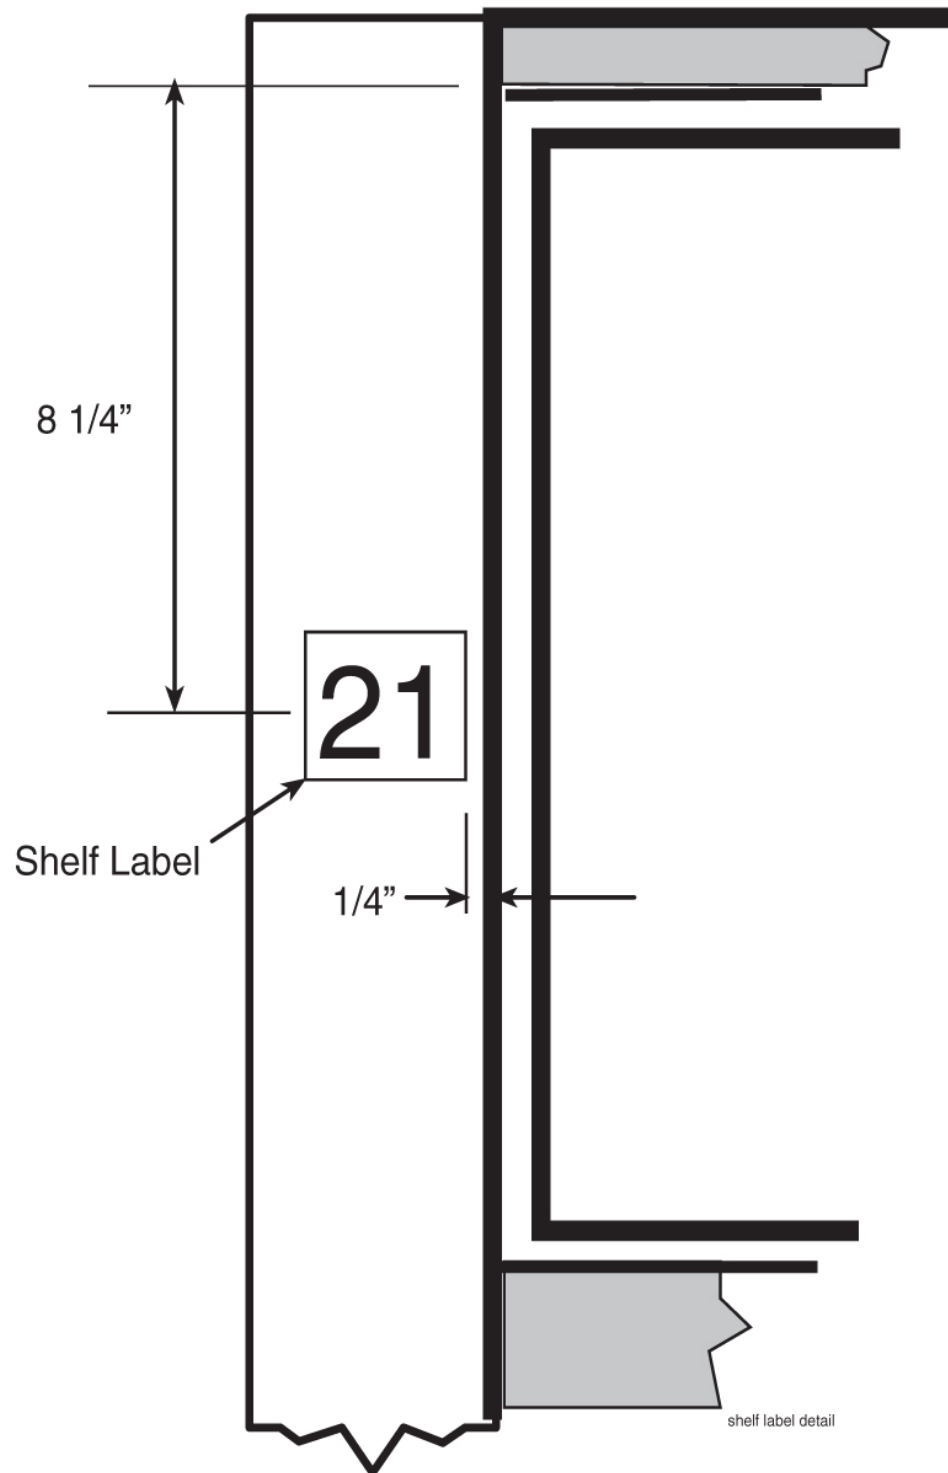

Figure 34: Shelf Label Location - Detail
Apply shelf labels to the frames of the system as shown in *Frame Labeling*. Refer to *Figure 34: Shelf Label Location - Detail* for exact placement. Refer to *Table 7: Shelf Labels and Part Numbers* for the proper label for each shelf.
2. Firmly press the label into place as shown in Frame Labeling and Figure 34: Shelf Label Location - Detail.